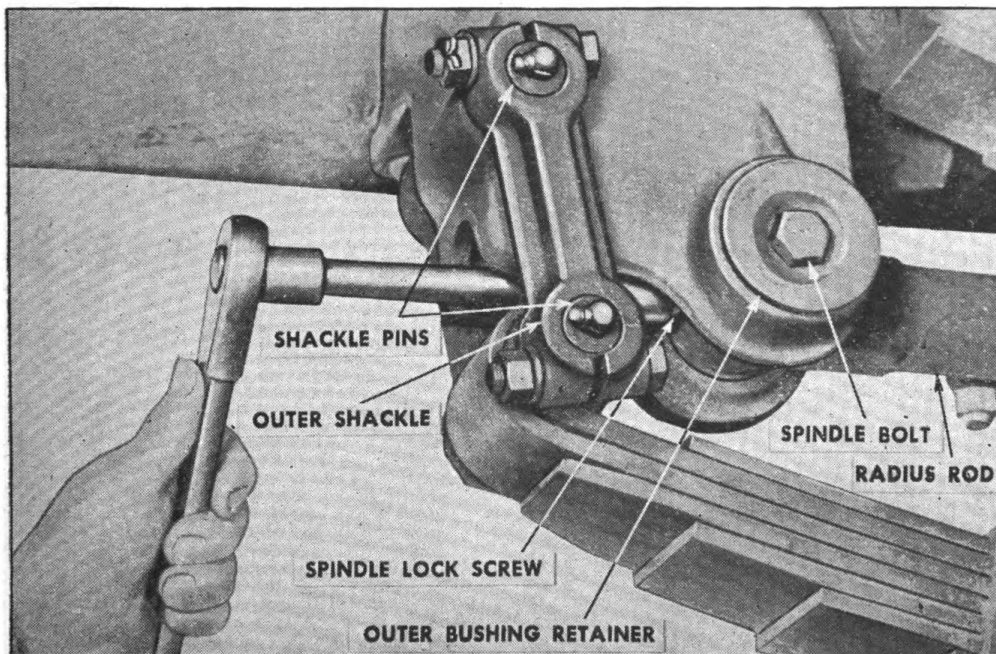

FIGURE 69. RADIUS ROD—REMOVAL.
(1) **Removal.**—(a) Remove spindle lock screws from each end of radius rod (Fig. 69).